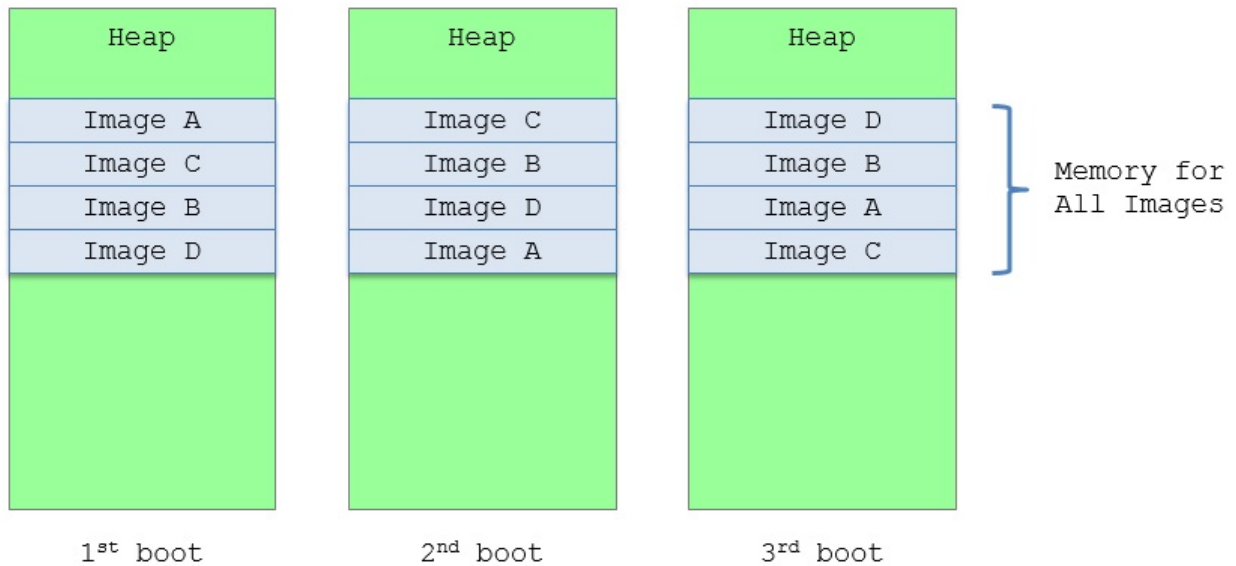

Figure 3-5 Image Shuffle
- UEFI image randomization.** The UEFI randomized heap shifts are implemented with a fixed offset. As such, even memory allocation shifts occur with the fixed offset. It is not good enough for a Portable Executable (PE) Common Object File Format(COFF) (PE/COFF) image load.
For PE/COFF images we use "image shuffle" to randomize the image load order. Whenever the `DxeCore` discovers a new firmware volume (FV), the `DxeCore` unconditionally load all the images in this FV with a random order. See figure 3-5 Image shuffle.